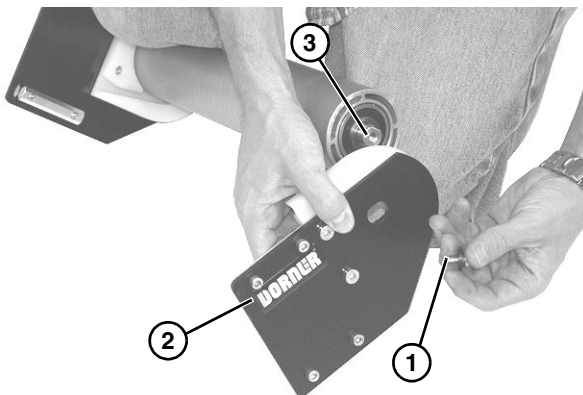

Figure 41
4. Remove socket head screw (Figure 41, item 1) from plate (Figure 41, item 2) and center of spindle shaft (Figure 41, item 3). Repeat procedure on opposite side.